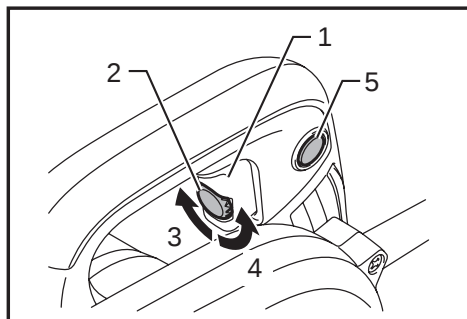

Fig.2
► Fig.2: 1. Switch trigger 2. Speed control screw 3. Higher 4. Lower 5. Lock button